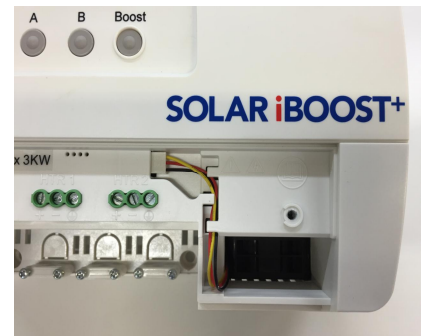
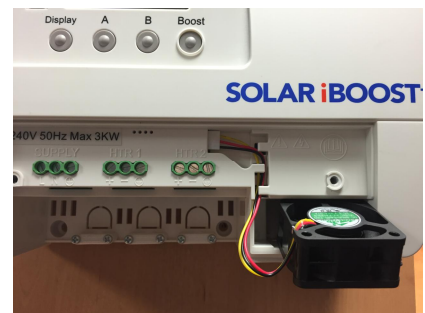

Fig: 2
Fig: 3
2. Ensure the fan (see fig 2) is positioned securely within its compartment, gently move the fan so it feels fully seated. Do not change the orientation of the fan, ( see fig 3) to maintain correct installation noting the cable as shown.